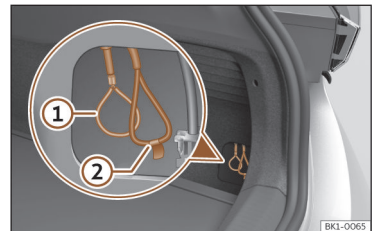

Fig. 52 Behind the cover: emergency release of the charging connector ① and rescue cut-off point ②.
- Pull the emergency manual release loop »» Fig. 52 ①. The loop **has no flag** »» ⚠! The charging connector can be removed »» ⚠.
Right next to the emergency manual release loop can be found a loop for the high voltage system's fuse for the emergency services »» Fig. 52 ②. The fuse is marked with a yellow flag »» ⚠.